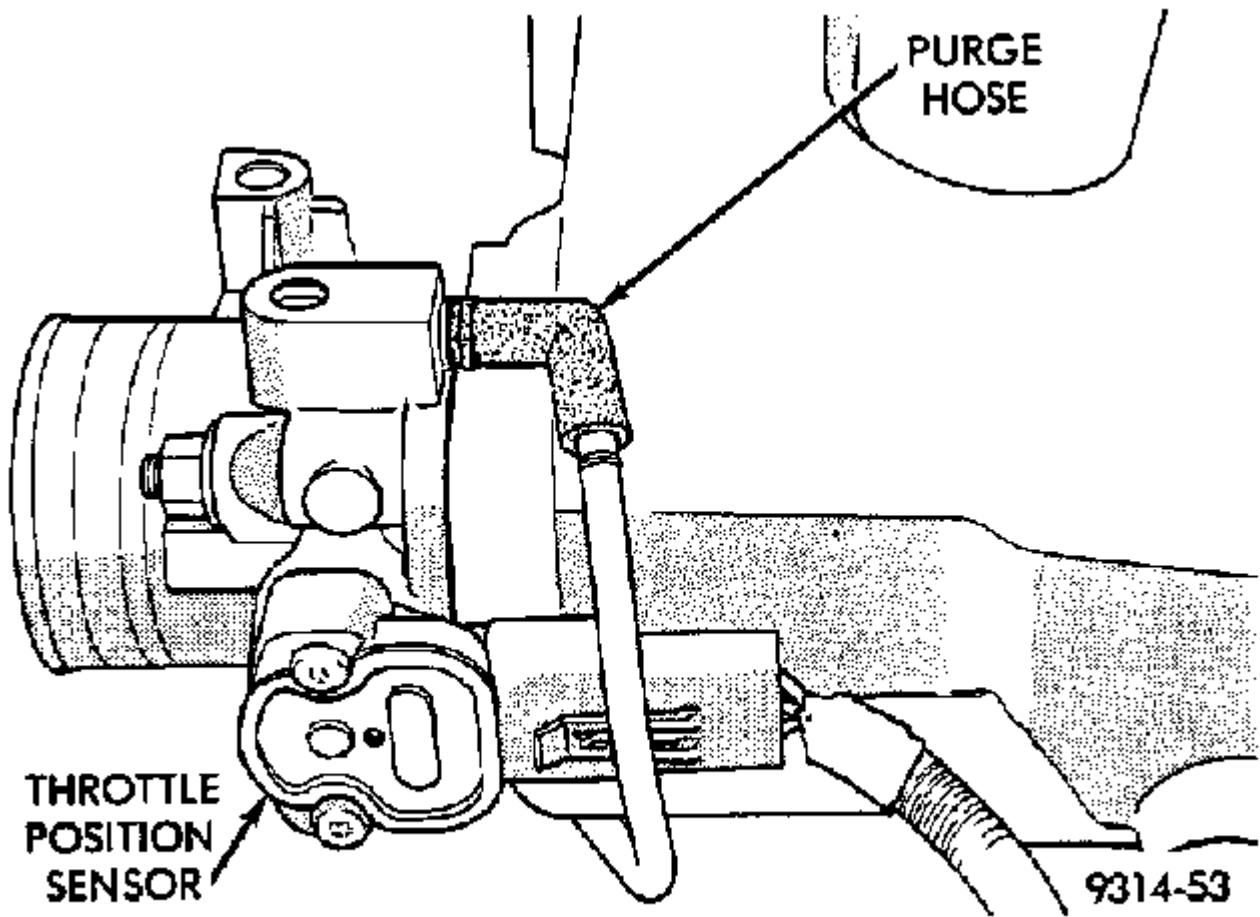

Figure 4
33. Connect the purge hoses to both throttle bodies (Figure 4).
34. Connect the TPS electrical connector (Figure 4).